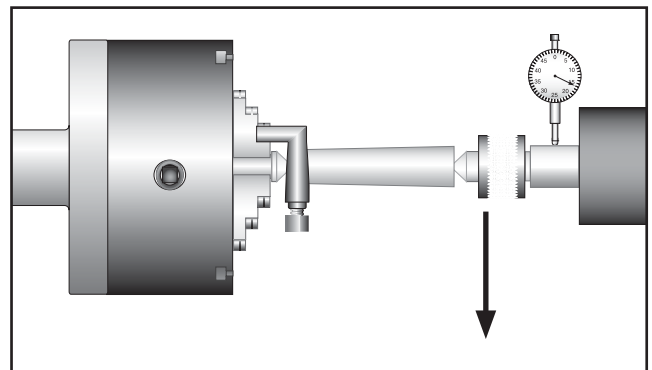

Figure 27. Tailstock adjustment option #1.
- If the diameter is thicker at the tailstock end, move the tailstock toward you half of the diameter (**Figures 27**).